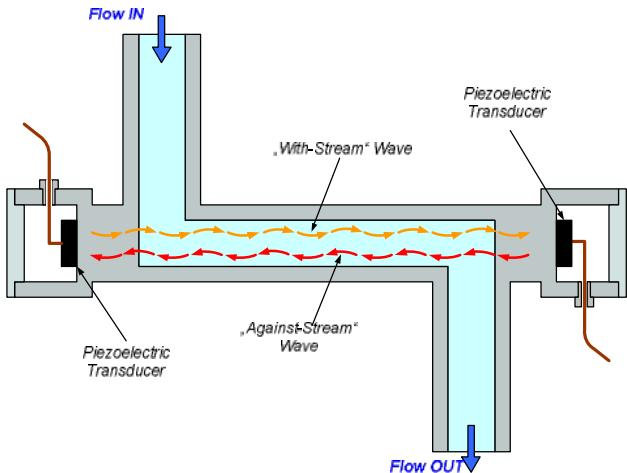

Figure 1: Operating principle of ultrasonic single-use sensor
The *LEVIFLOW®* single-use flowmeters are designed for non-invasive flow measurements of high purity fluids. Figure 1 illustrates the operating principle. Two piezo-electric transducers, mounted in the sensor housing, generate and receive an ultrasonic wave. The two waves are processed by a signal converter. The difference of the transit time of both waves is proportional to the velocity of the fluid. The wet materials of the single-use sensors fabricated from biocompatible (FDA, USP-VI, BSE/TSE and Animal free) gamma sterilizable polypropylene (PP).